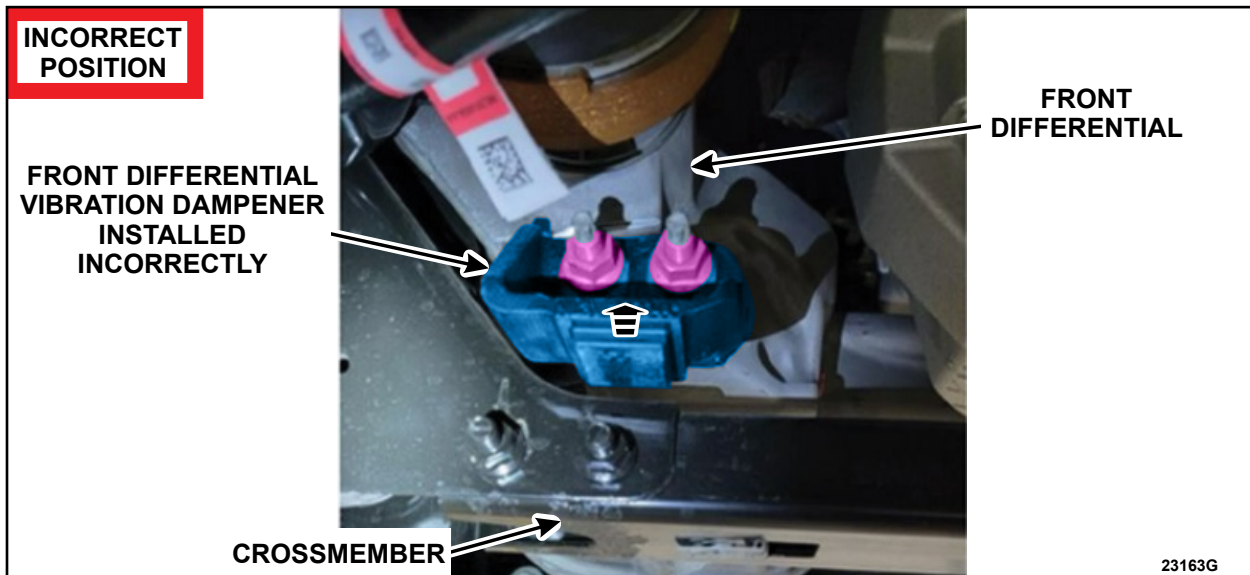

FIGURE 4
5. Remove the nuts and the front differential vibration dampener. See Figure 4.